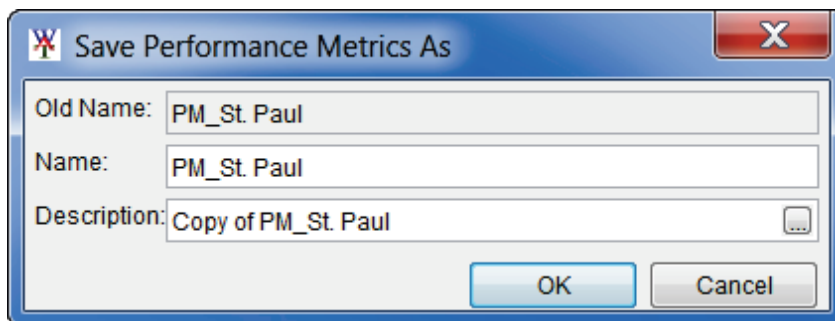
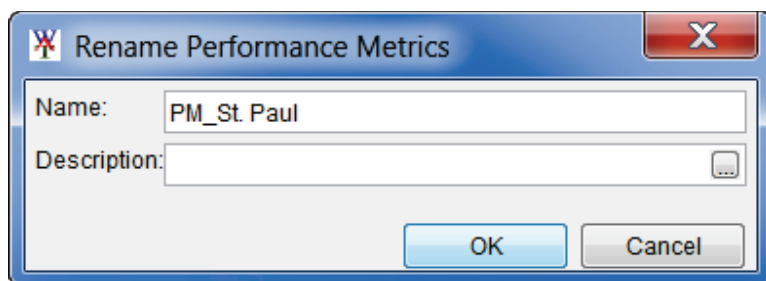
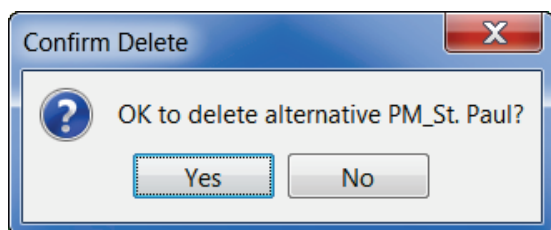

**Figure 19.9** Individual Performance Metrics Alternative - Content Pane- Shortcut Menu
**Figure 19.10** Save Performance Metrics As Dialog Box
**Figure 19.11** Rename Performance Metrics Dialog Box
1. From the HEC-WAT main window (Figure 19.3), from the **Content Pane** (Figure 19.9), right-click on a performance metrics alternative, from the shortcut menu click **Edit**. The **Performance Metrics Editor** will open (Figure 19.6).
From the HEC-WAT main window (Figure 19.3), from the **Content Pane** (Figure 19.9), right-click on a performance metrics alternative, from the shortcut menu click **Save**. The performance metrics alternative data is saved.
1. From the HEC-WAT main window (Figure 19.3), from the **Content Pane** (Figure 19.9), right-click on a performance metrics alternative, from the shortcut menu, click **Save As**. The **Save Performance Metrics As** dialog box will open (Figure 19.10).
2. The name of the performance metrics alternative which is being copied is displayed in the **Old Name** box (Figure 19.10). The user will enter a new unique name in the **Name** box. An optional can be provided description in the **Description** box (Figure 19.10).
3. Click **OK**, the **Save Performance Metrics As** dialog box will close (Figure 19.10), and the name of the new performance metrics alternative will appear in the **Content Pane** (Figure 19.9) of the HEC-WAT main window (Figure 19.3).
1. From the HEC-WAT main window (Figure 19.3), from the **Content Pane** (Figure 19.9), right-click on a performance metrics alternative, from the shortcut menu click **Rename**. The **Rename Performance Metrics** dialog box will open (Figure 19.11).
2. The name of the performance metrics alternative which is being renamed is displayed in the **Name** box. The user must enter a new unique name in the **Name** box (Figure 19.11). An optional description can be provided in the **Description** box (Figure 19.11).
3. Click **OK**, the **Rename Performance Metrics** dialog box will close (Figure 19.11), and the re-named performance metrics alternative will appear in the **Content Pane** (Figure 19.9) of the HEC-WAT main window (Figure 19.3).
1. From the HEC-WAT main window (Figure 19.3), from the **Content Pane** (Figure 19.9), right-click on a performance metrics alternative, from the shortcut menu click **Delete**. A **Confirm Delete** window box will open (Figure 19.12).
2. Click **Yes**, the selected performance metrics alternative will no longer be displayed in the **Content Pane** (Figure 19.9) of the HEC-WAT main window (Figure 19.3).